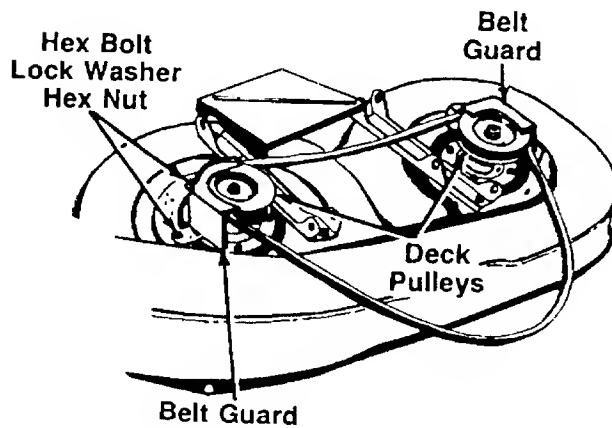

FIGURE 21.
10. Remove the belt guards at each deck pulley by removing the self-tapping screws. See figure 21.